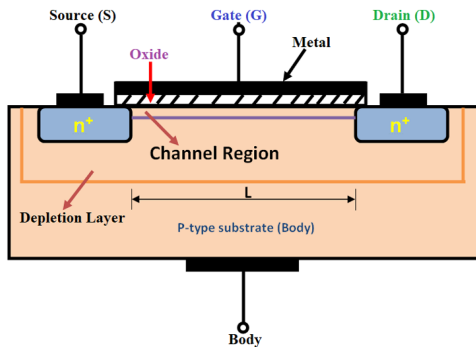

FIG. 2: Internal structure of a N-channel enhancement type MOSFET
Fig. 2 shows the internal structure of a MOSFET. The source (S) and drain (D) regions are heavily doped n-type semiconductors and between them, the body (B) is a p-type semiconductor. There is a thin layer of metal oxide i.e. a dielectric which creates the gate terminal (G).